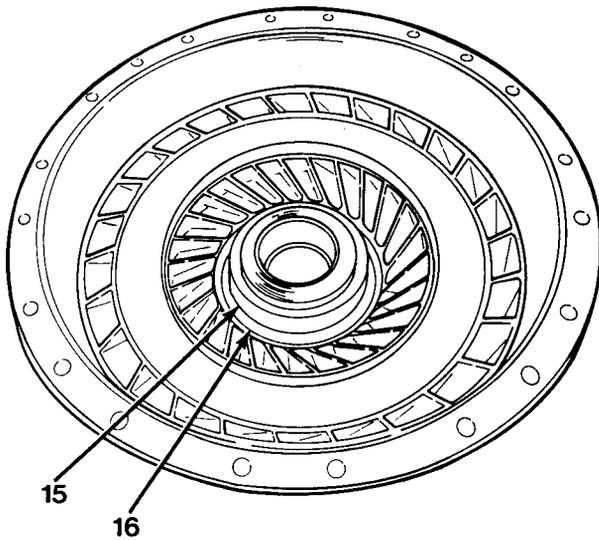

Figure 11-7
11. Remove thrust race (15), thrust bearing (16) and thrust race (15, Figure 11-7).
2. Install thrust race (15), thrust bearing (16) and thrust race (15, Figure 11-7).